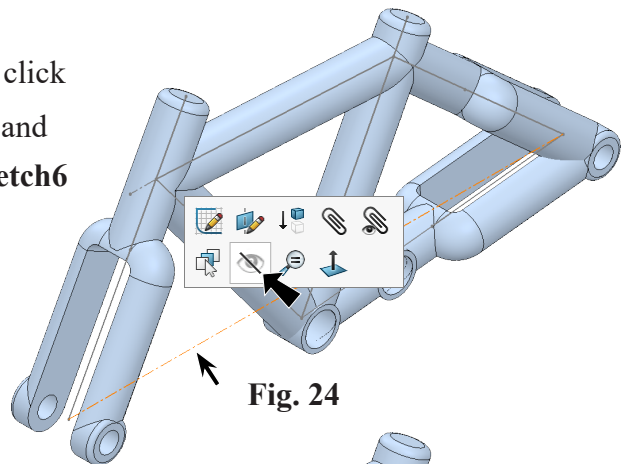

Fig. 24
Step 1. **Hide the 3 sketches** , Fig. 24. To hide, click **Sketch1**  in **Frame**  in graphics area and **Hide**  on the context toolbar. Hide **Sketch6**  in **Fork**  and **Seat Stays Fork** .